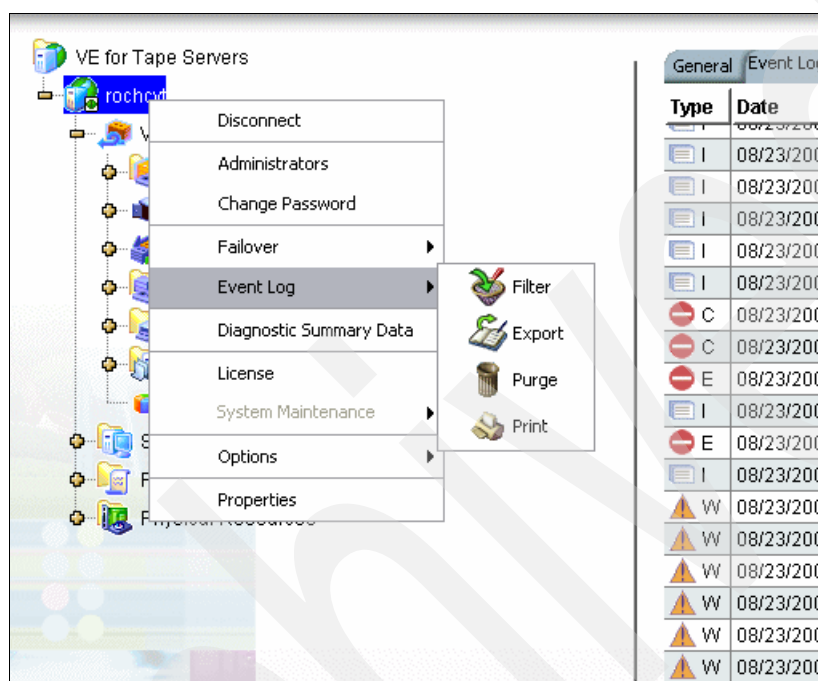

Figure 7-18 Filtering Event Log
1. Right-click the IBM Virtualization Engine TS7510 name in the left panel, and select **Event Log** from the pull-down list, as shown in Figure 7-18. Click **Filter** from the pull-down menu when you expand Event Log.
If you want to export Event Log to your PC, print it on a printer or purge it. Click the IBM Virtualization Engine TS7510 name in the left panel, select **Event Log** in the pull-down menu, and select a required function in the pull-down list expanded from Event Log. You can see these options in Figure 7-18 on page 267.